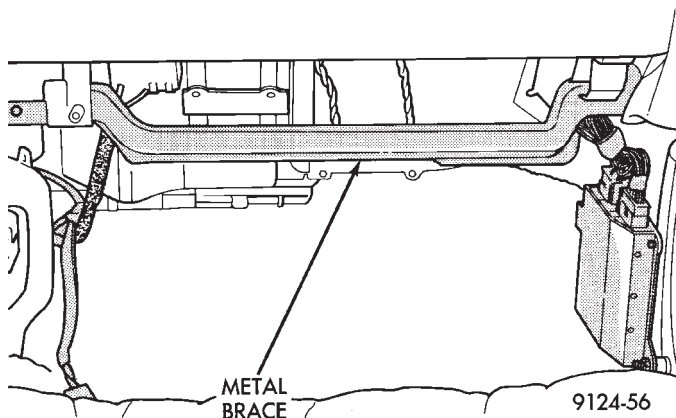

Fig. 6 Brace Removal and Installation
- (1) Remove the glove box/ash tray assembly. Refer to the Switch and Panel Component Service section of Group 8E.
- (2) Remove under panel silencer pad.
- (3) Remove the carpeted cover over the air bag module.
- (4) Remove the right front kick panel.
- (5) Remove metal instrument panel brace (Fig. 6).